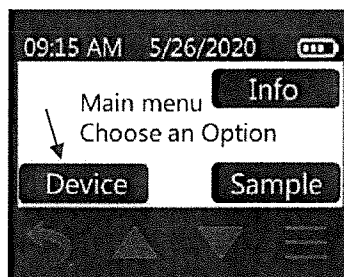

Figure 47. Device Button
1. Press the main menu button (three Horizontal lines below the display) to get to the Main Menu and touch Device (Figure 47).